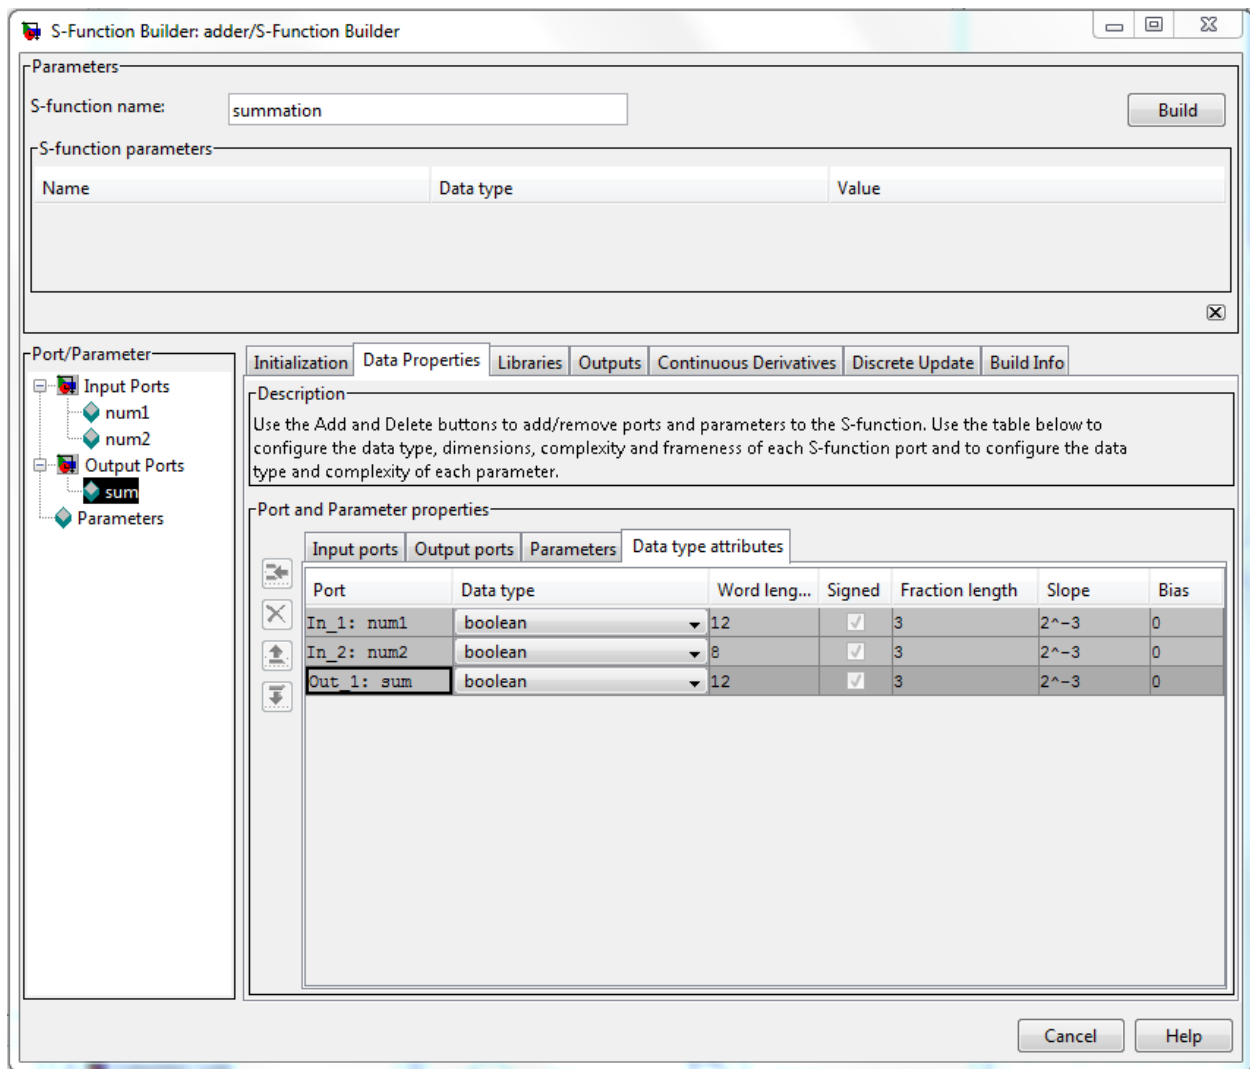

Figure 4
- Click on the “Data type attributes” tab and select a data type of “boolean” for inputs and outputs. See figure 4 for reference.